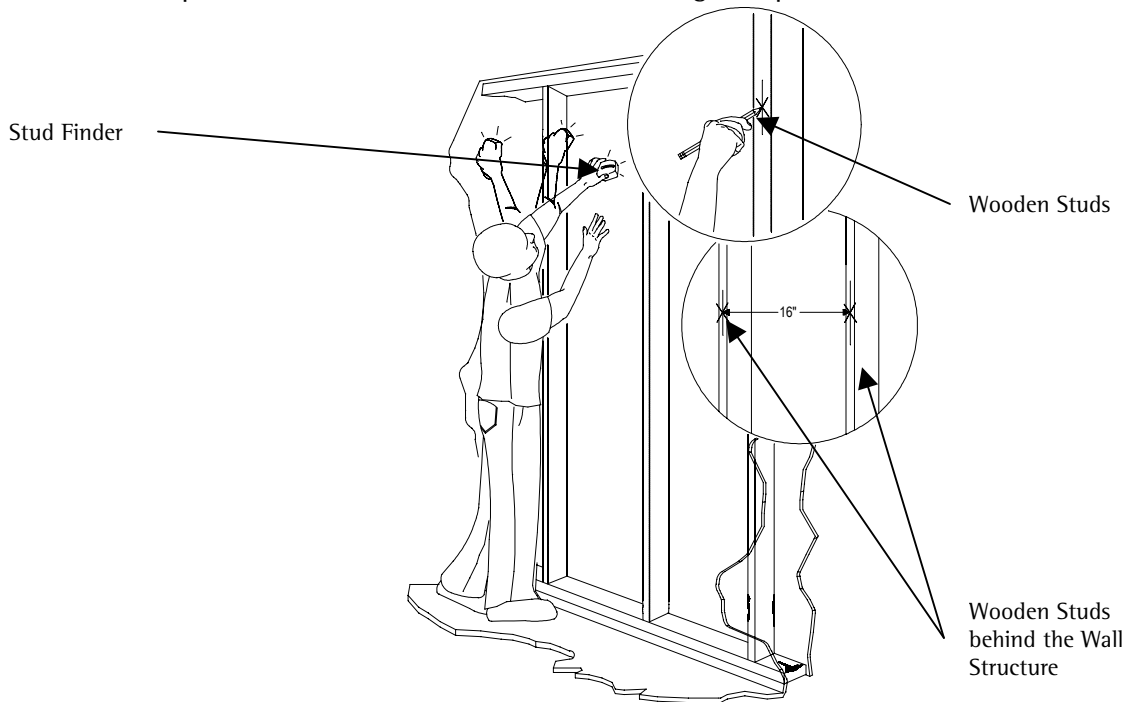

Figure 9. Locating the Wooden Stud
2. Once found, make a pencil mark on the center of the wood studs (Figure 9).